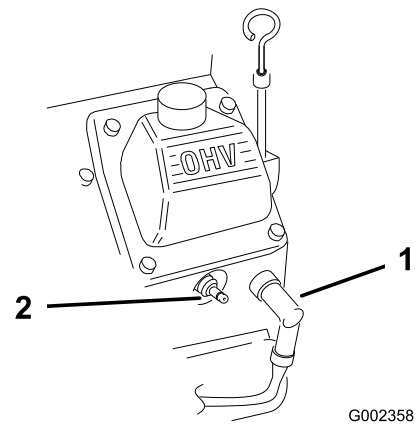

Figure 26
2. Disconnect the wires from the spark plugs (Figure 26).